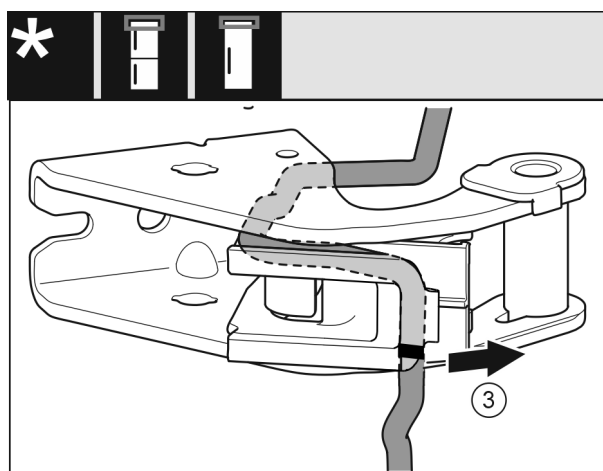

Fig. 28
- Remove the cable with the cable holder Fig. 28 (3) from the swap bearing block.